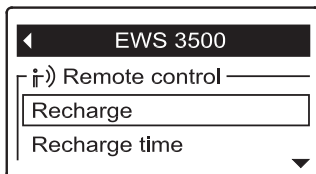

FIG. 75
2. Press the remote's SELECT (O) button to display the device menu (See Figure 75).